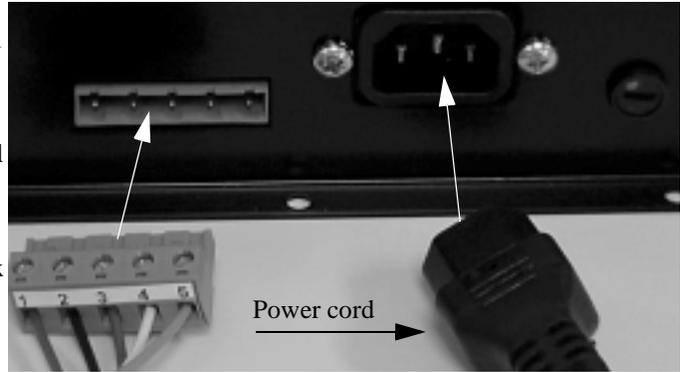

Figure 10. Connection to Housing
1. Connect the large terminal block (wired to cable in “Electrical Control Box Connections” on page 10 in the control box (see Figure 9 and Figure 10).
5. Connect one end of the power cord (see Figure 10) into the lift and the other end into a 110V 60 Hz 15-amp power source.